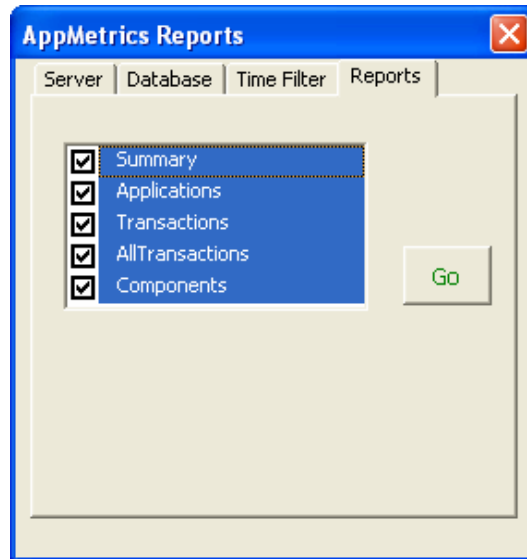

Figure 6
7. Click on the **Reports** tab, and select the specific report components you wish to see generated (see Figure 6).